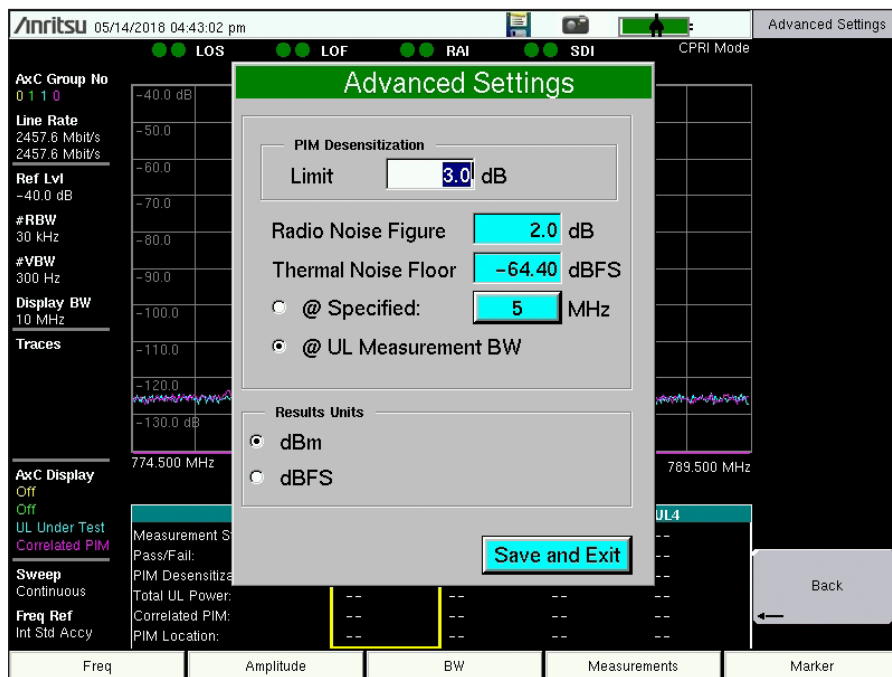

Figure 14: Advanced settings window
- **Pass/Fail:** Based on the PIM desensitization limit set in either the PIM Aid window (Figure 8) or Advanced Settings window (Figure 14). Field tests show that a 10 dB PIM desensitization level can reduce data throughput by up to 50%. (Figure 15)